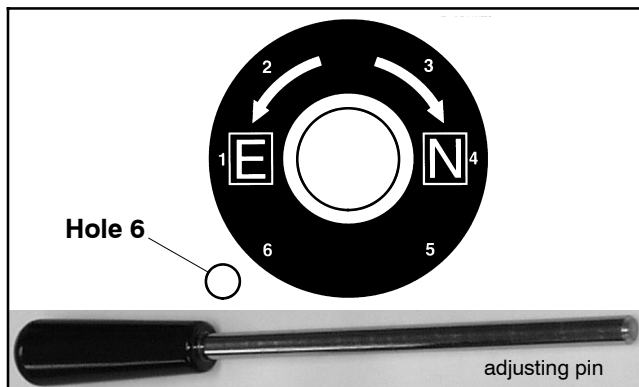

Figure 9-24 Pin Weight To Frame (see step 5)
5. Pin the weight to prevent the mechanism from moving. Insert the adjusting pin (see Figure 9-1) through the weight frame and into the weight. Use the hole labeled **6** on the round label; it is the bottom left hole adjacent to the center operator shaft (in the 7 o'clock position). See Figure 9-24.